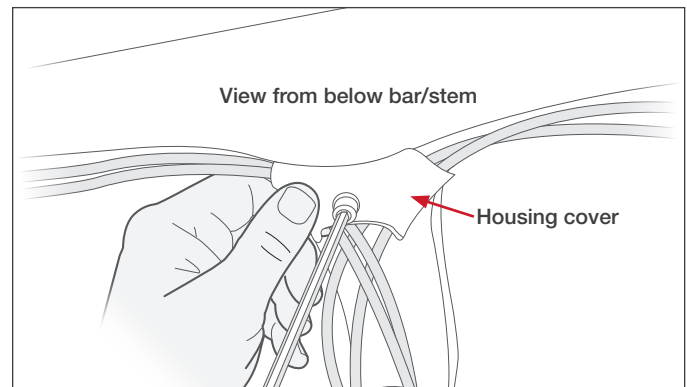

Figure 2
3. Install the housing cover onto the underside of the handlebar (see Figure 2).